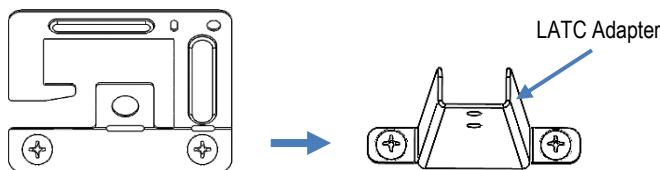

FIG. 12: SWAPPING T-GRID CLIP FOR LATC ADAPTER
- b. Remove the T-Grid clip and replace with the LATC adapter. See Figure 12.